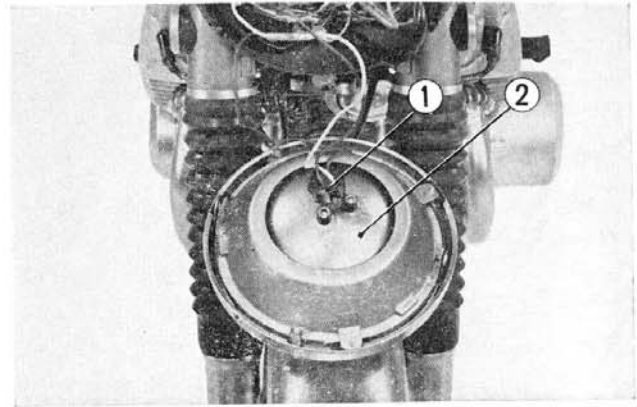

Fig. 16-4 ① Headlight socket ② Headlight unit
2. Disconnect the leads from the headlight unit. (Fig. 16-4)